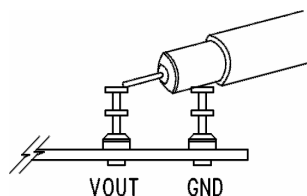

Figure 2. Measuring Input or Output Voltage Ripple
8. When measuring the input or output voltage ripple, care must be taken to avoid a long ground lead on the oscilloscope probe. Measure the input or output voltage ripple by touching the probe tip directly across the Vin or Vout and GND terminals. See Figure 2 for proper scope probe technique.